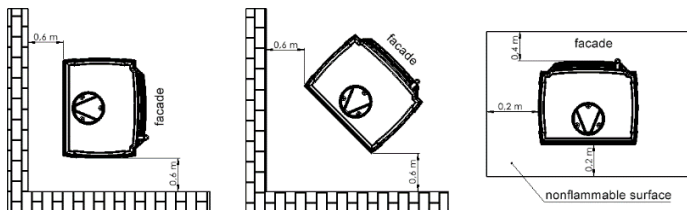

Fig.2. Safe distance from the stove
- the stove must be placed on the nonflammable surface extending for min. 0,4 m from the stove and min 0,2 m measuring from the sides and the back of the stove (See Fig 2),